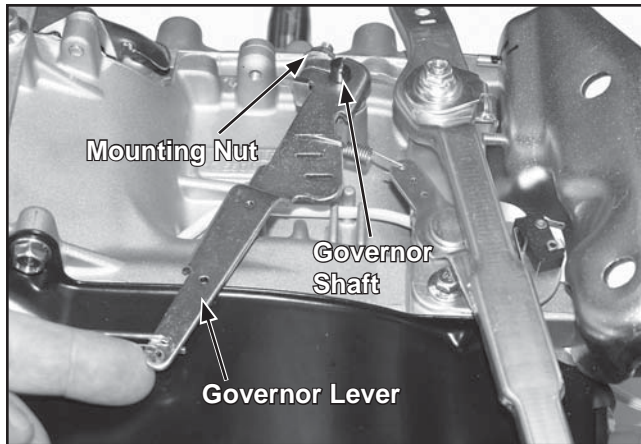

Figure 5-20. Governor Adjustment.
3. Loosen the governor lever mounting nut. See Figure 5-20.